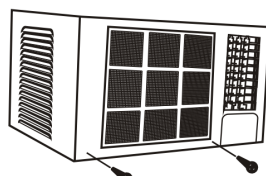

Figure 3
Remove screws at the bottom of the front panel. (Figure 3)
7. Reinstall the retaining bracket, front panel, and previously removed mounting screws. (Figure. 3, 4, 11)